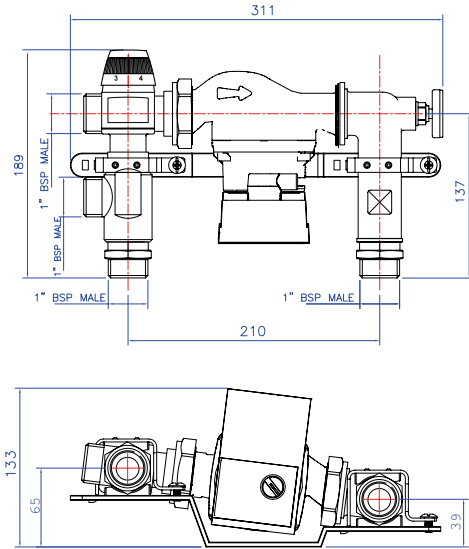

Fig. 1 Overall Connections and Dimensions
- 5.5 The control group can be attached to the manifold either before or after the manifold is secured to the wall. The control group should be secured to a flat vertical surface able to support the weight of the control group and manifold. Using the dimensions shown in Figs. 1 and 2, ensure that there is sufficient space for installation and maintenance at the intended position for the control group. The fixing hole positions of the mounting bracket can be marked through the mounting bracket itself.